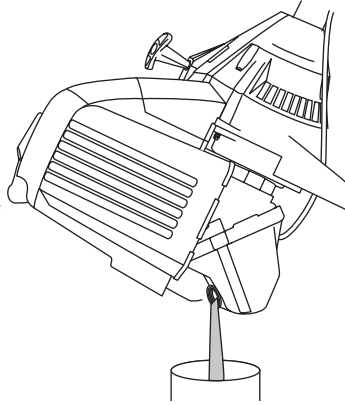

Fig. 26
3. Pour the oil out of the oil fill hole and into a container by tipping the unit to a vertical position (Fig. 26). Allow ample time for complete drainage.